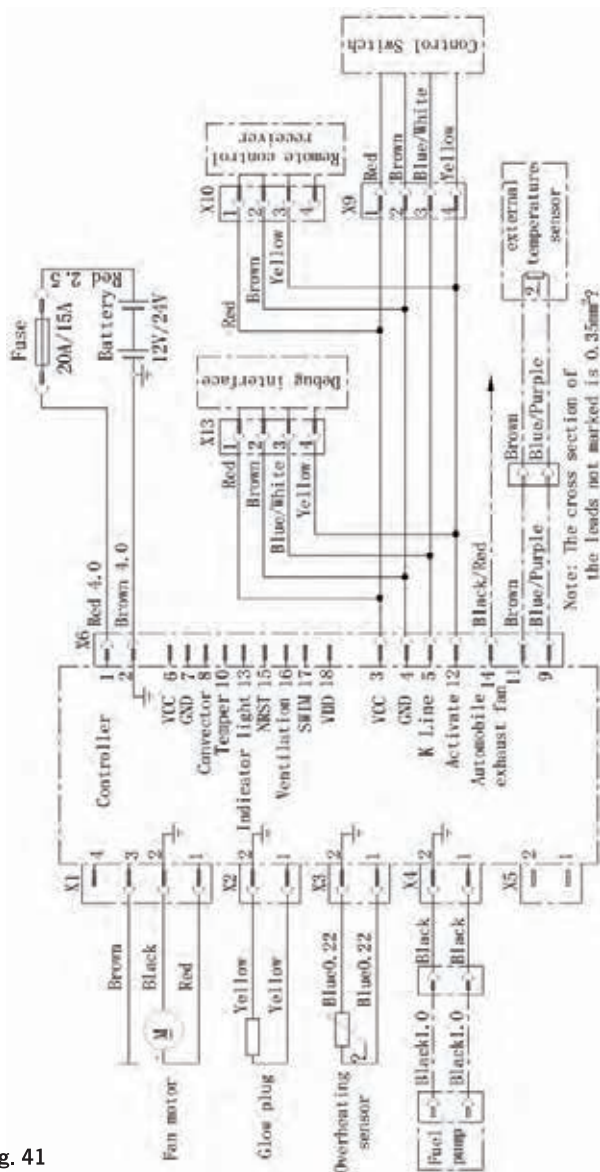
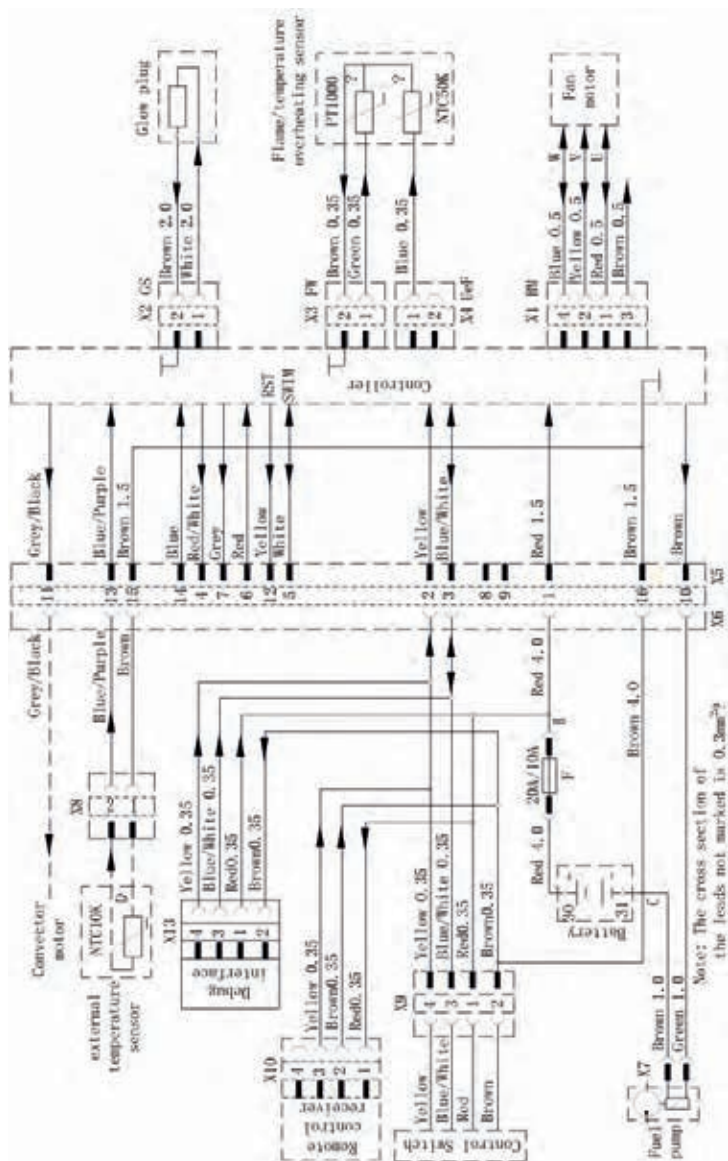

Fig. 41
Fig. 42
- The wiring diagrams for the heater are shown in Fig. 41 (Page 120) and in Fig. 42 (Page 121).